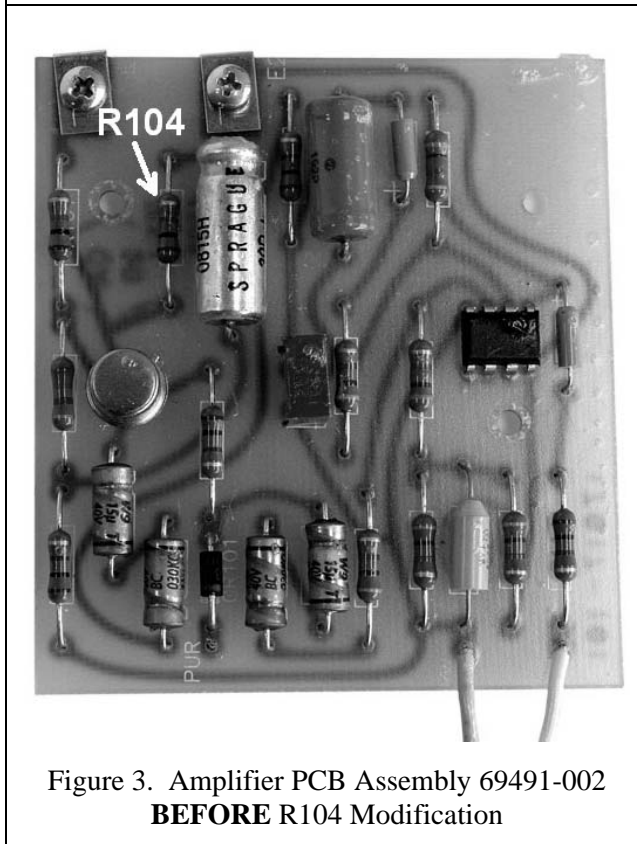

Figure 3. Amplifier PCB Assembly 69491-002 BEFORE R104 Modification
6. On the 69491-002 PCBA, locate R104, which is adjacent to C101 and E2. Refer to Figure 3.